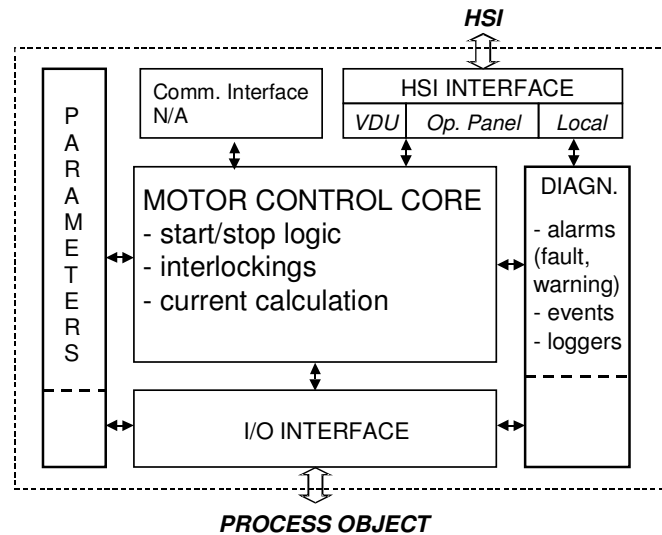

Figure 2-1. The Structure of the Functional Unit
- A section for operator functions, which consists of presentation and order functions. Data and parameters from the process are presented on an Operate^{IT} Operator Station. The keyboard of the Operate^{IT} Operator Station is used by the operator to enter commands, which control the operation of the functional unit. The response to the operator's intervention is shown on the display screen of the Operate^{IT} Operator Station. The application work for this part is normally limited to the arrangement of the display. Figure 2.1 shows the structure of the functional unit.